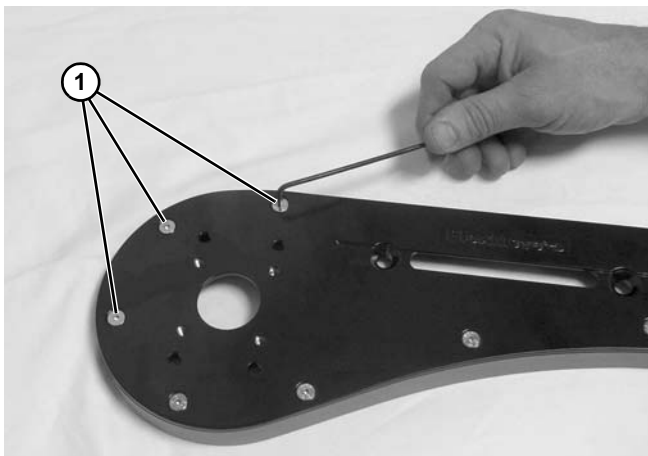

Figure 118
4. Remove three socket head screws (**Figure 118, item 1**).